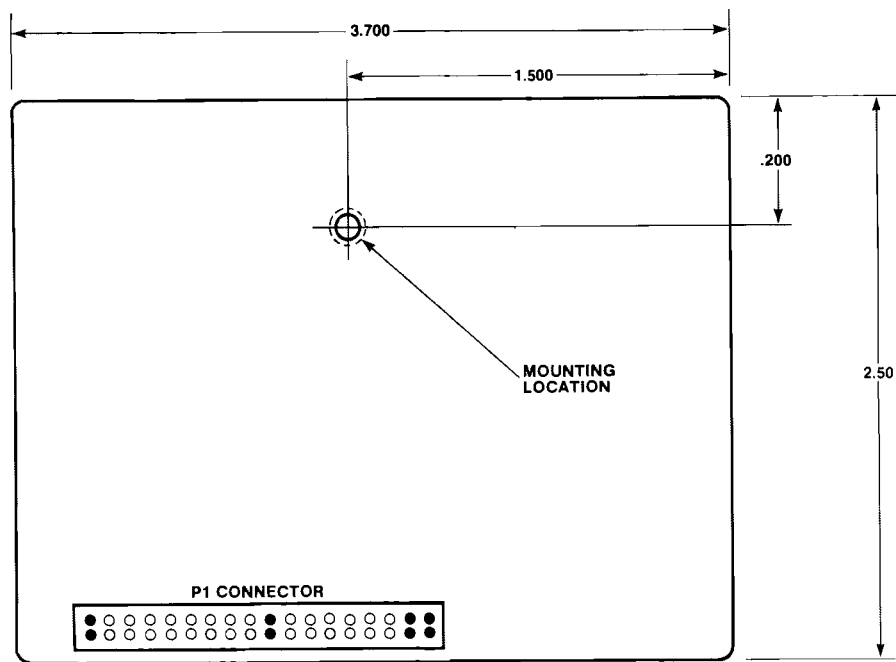
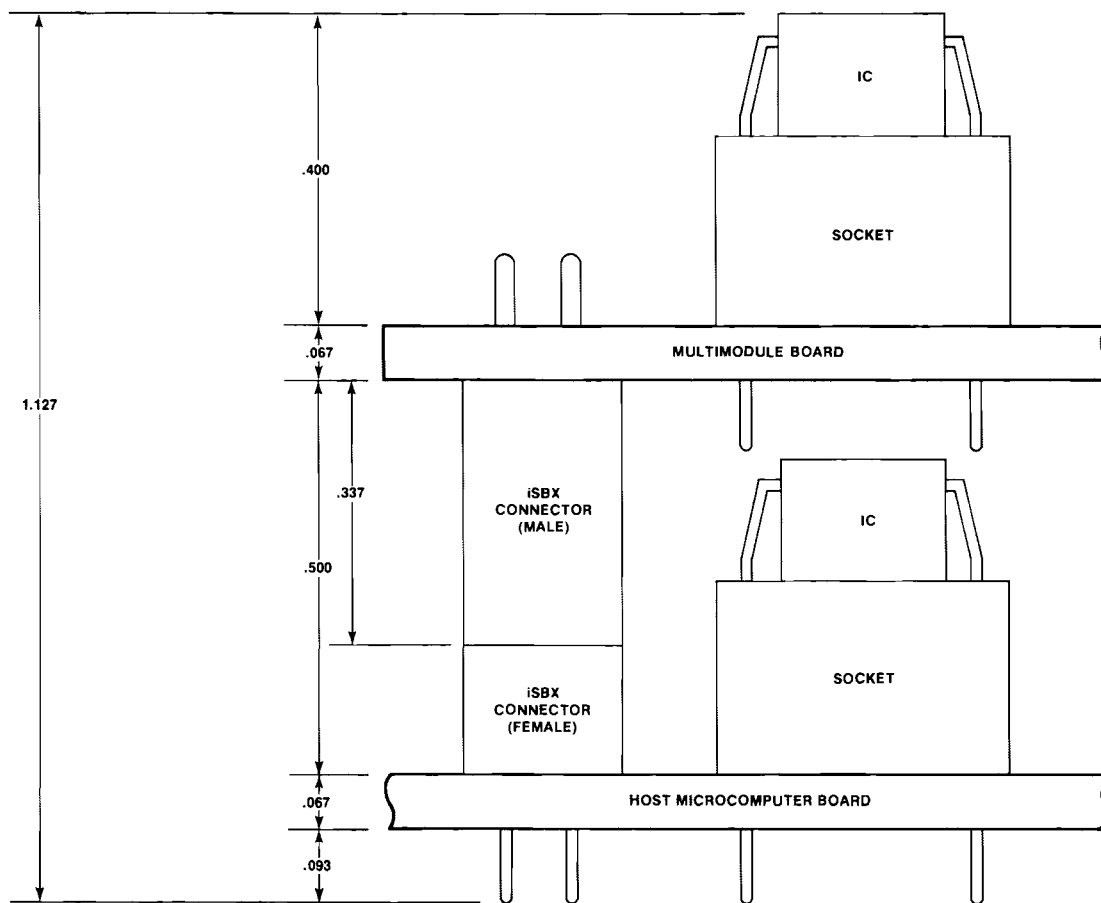

Figure 2-1. Board Dimensions (Inches)
Figure 2-2. Mounting Clearances (Inches)
Figure 2-1 shows the iSBX bus connector and stand-off locations. The Multimodule board will mount onto any iSBC microcomputer containing an iSBX bus connector and the required stand-off hole. The mounting hardware supplied as part of the Multimodule board includes:
Figure 2-1 shows the physical dimensions and figure 2-2 shows clearances for a Multimodule board mounted onto a host iSBC microcomputer. The dimensions shown in figure 2-2 are maximum heights.
- Align the Multimodule board mounting hole with the spacer on the host iSBC microcomputer; reference figure 2-1 for hole location.